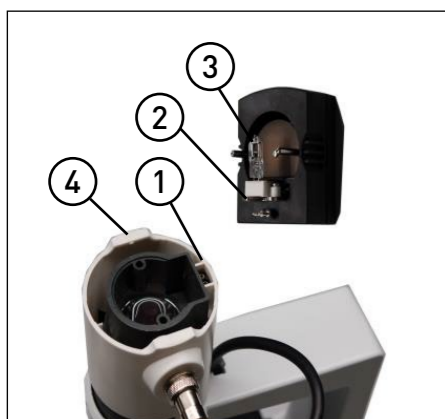

FIGURE 5
2.2.3 Installing the lamp house (Fig. 5)